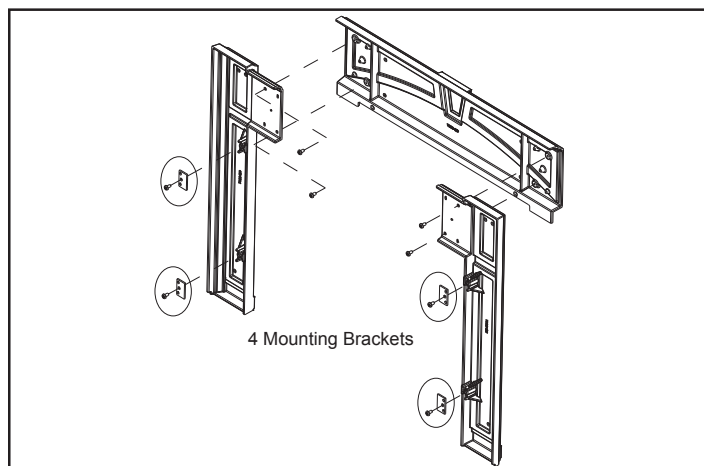

Figure 21.5
4. Attach the mounting brackets to the side pieces included with the kit. **Figure 21.5.**